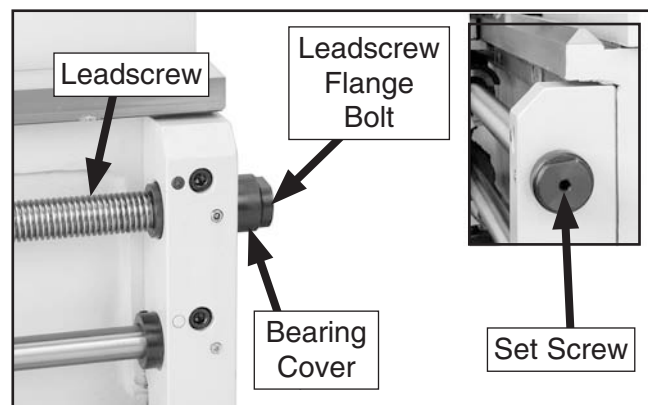

Figure 102. Leadscrew end play bearings.
2. Back out the leadscrew set screw approximately five turns (see **Figure 102**).
3. Un-thread the leadscrew flange bolt (**Figure 102**), and slide the bearing cover off the end of the leadscrew.